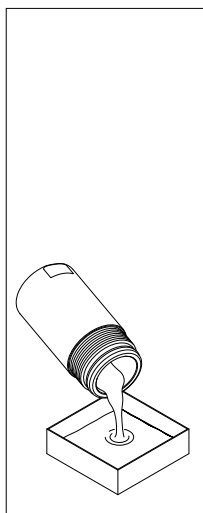

fig. 9
- (Fig. 9) Empty the operating fluid from the bowl into the collection vessel